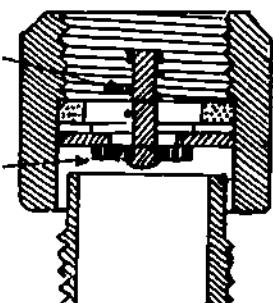

Figure 30-5. Vacuum Breaker Cross-Sectional View, Shown Open to Atmosphere
- Reduced Pressure Type (Figure 30-5).